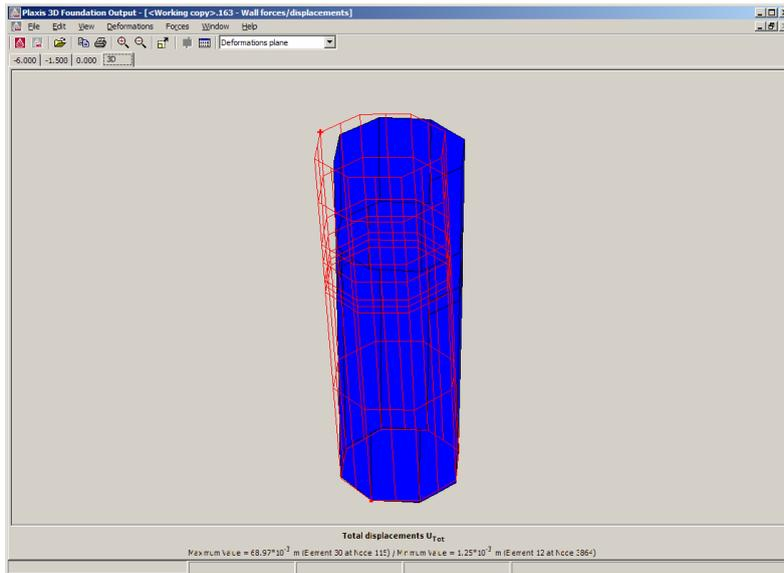

Figure 6.3 Total displacements at the end of Phase 3
- Select the third calculation phase from the phase list and click <Output> to open the output program (see Figure 6.3).